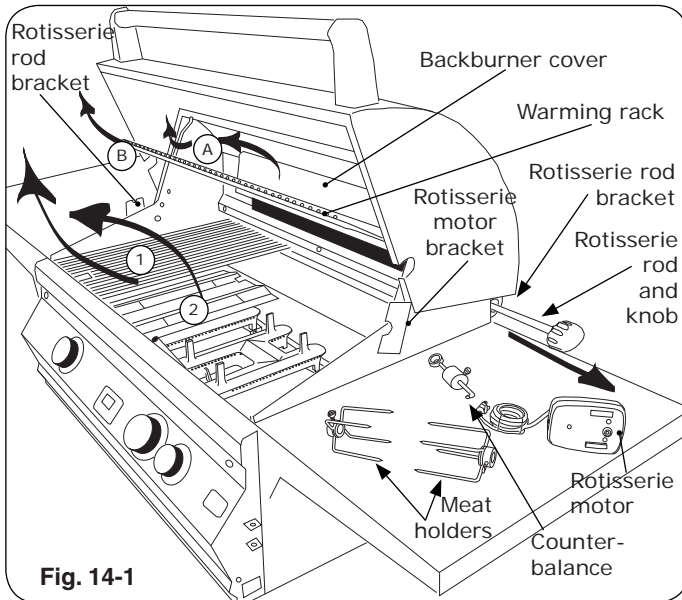

Fig. 14-1
3. Remove rotisserie rod from rear bracket (Fig. 14-1) attach knob if necessary.